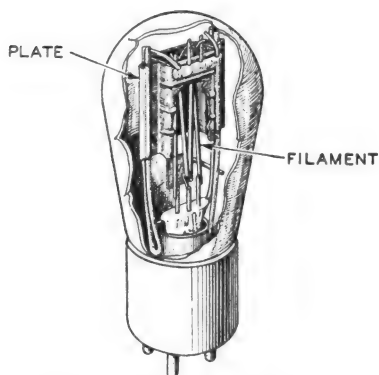

Fig. 16. Half-Wave Rectifier Tube
**Half-Wave Rectifier Tube.** There are two forms of rectification—*half-wave rectification* and *full-wave rectification*. The name given the rectifier depends upon whether the process uses only one side or both sides of the alternating-current wave. Half-wave rectification requires the use of a vacuum tube consisting of a *filament* and a single *plate*, as shown in Fig. 16. While the construction is different, the principle of operation is the same as the tungar rectifier.